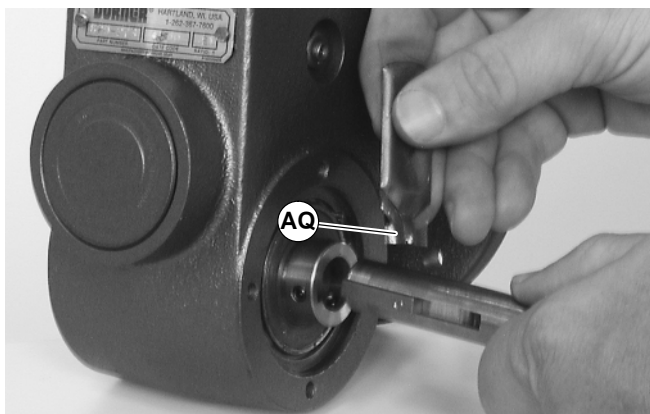

Figure 21
10. Apply grease (AQ of Figure 21) to shaft.